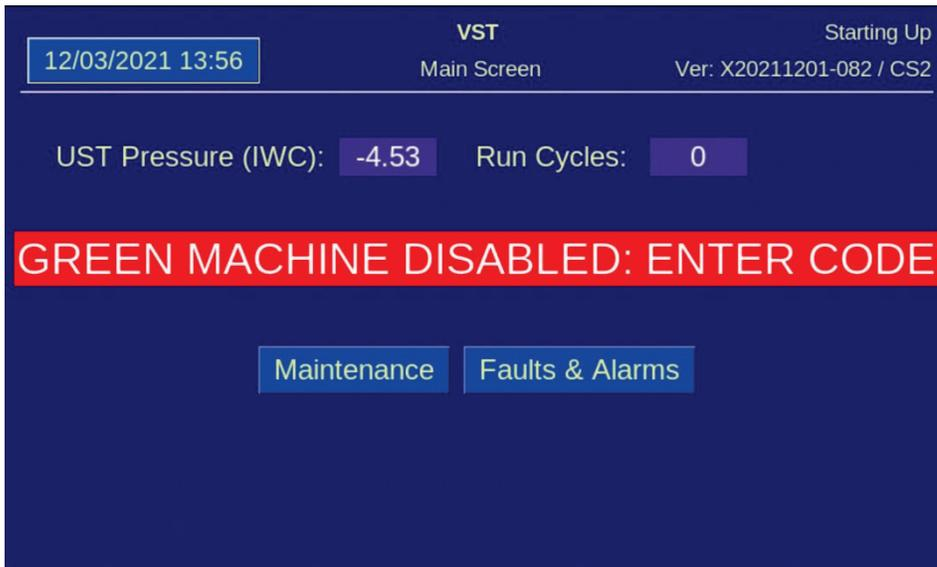

Figure 6-1: Main Screen with Disabled Message
When the power is turned ON to the VST Control Panel, the Main Screen will show on the PLC Screen with the label **GREEN MACHINE DISABLED: ENTER CODE**. See **Figure 6-1**. The Start-Up process can be completed with the GM DISABLED. The code to the VST Control Panel must be entered before the GREEN MACHINE can become operational. The code will be supplied to the Start-Up Contractor via e-mail after Appendix B is submitted online.
5.	At the PLC Main Screen, push the Maintenance Screen button to access the Password Screen. See Figure 6-1.
See **Figure 6-1**.